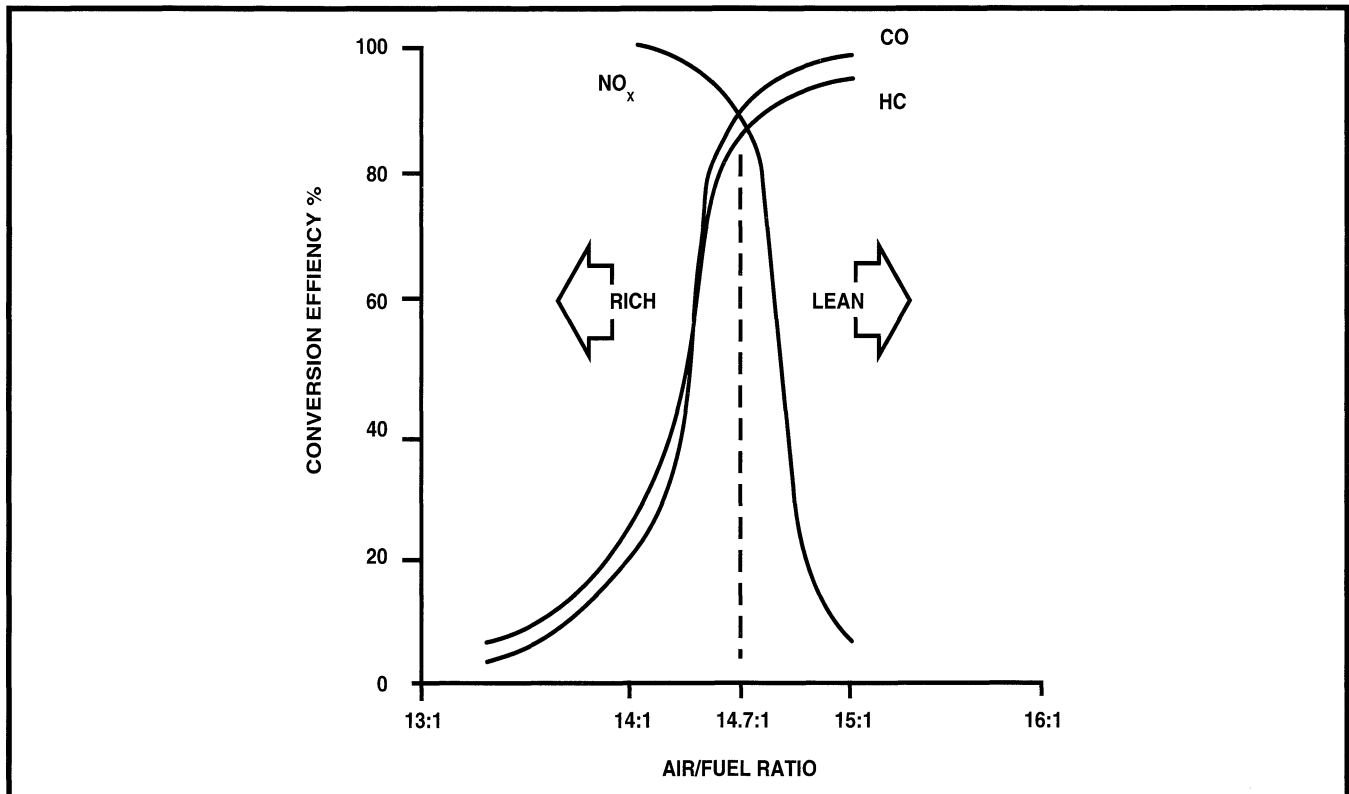

Figure 42 Conversion Efficiencies of a Three-Way Catalyst
The latest technology provides the use of a three-way catalytic converter on most automobiles. The three way catalyst simultaneously converts three harmful exhaust emissions into harmless gases. Specifically, HC and CO emissions are converted into water (H_2O) and carbon dioxide (CO_2). Oxides of Nitrogen (NO_x) are converted into elemental Nitrogen (N) and oxygen. The three way catalyst is most efficient in converting HC, CO and NO_x at the stoichiometric air fuel ratio of 14.7:1 (fig. 42). If the mixture becomes leaner than 14.7:1 (extra oxygen) the ability to convert NO_x drops. As the mixture becomes richer than 14.7:1 (less oxygen) the ability to convert HC and CO drops.